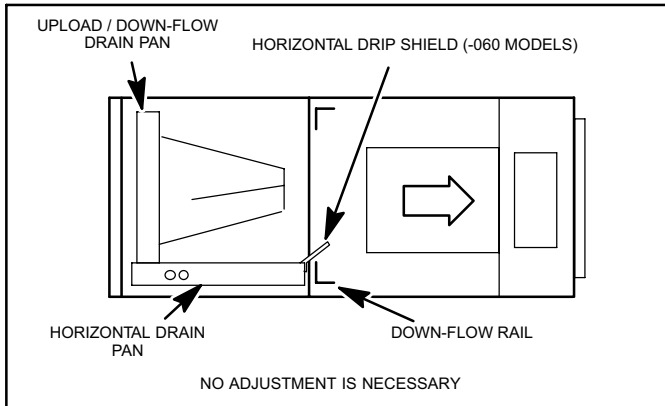

Figure 2. Right-Hand Discharge Configuration
- Step 2. Install the horizontal shield on the front edge of the horizontal drain pan as illustrated in figure 2.